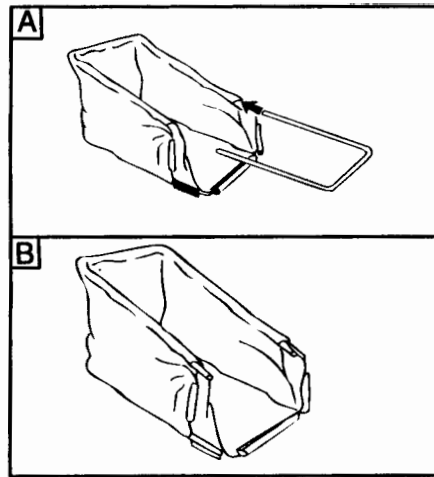

Figure 7
- Insert one end of the rear frame into the cloth channel on the edge of the grass bag. See figure 7. Feed all the material on one side of the frame before working it around frame.